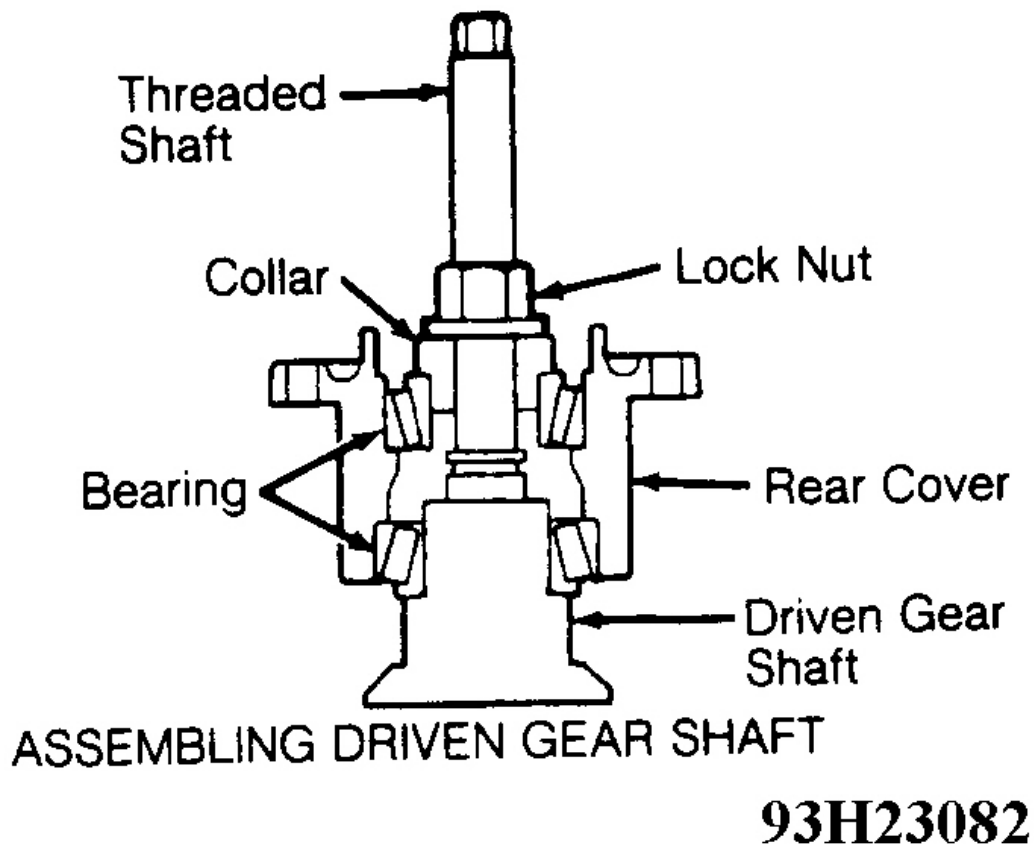

Fig. 45: Assembling Driven Gear Shaft
5. Coat bearing races in rear cover with oil. Install Driven Gear Shaft (07JAJ-PH8020A), Threaded Shaft (07973-SD9090A), bearings and Collar (07973-SD9060A) in rear cover. See **Fig. 45** .
24. Using press, Driver (07746-0030100) and Adapter (07746-0030400), press bearing onto driven gear. Install NEW spacer on driven gear. See **Fig. 45** . Install driven gear in rear cover. Install companion flange, spring washer and NEW lock nut.